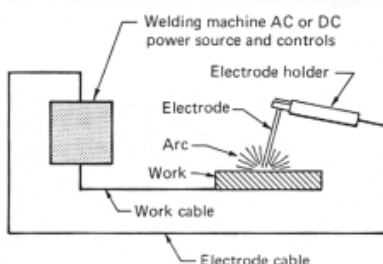

Figure 2 (a) Gas welding (b) Schematic of Arc welding (c) Arc welding is easier to automate using Robots (why?)
3.1.2. Arc Welding. Here, the metal is heated by maintaining a very high voltage between the electrode and the metal. This results in dielectric breakdown of the air gap, causing a discharging arc. The temperature at the arc can reach up to $30,000^{\circ}C$ (almost ten times oxy-fuel torches). Notice from Figure 2 (b) that the metal is used as one electrode, and the filler rod as the other electrode; either DC or AC can be used, with typical current ranging between 50A ~300A and typical power of 10kW or more. Typically, DC welders are used for sheet metal, while high power requirements of thick members need AC supply.